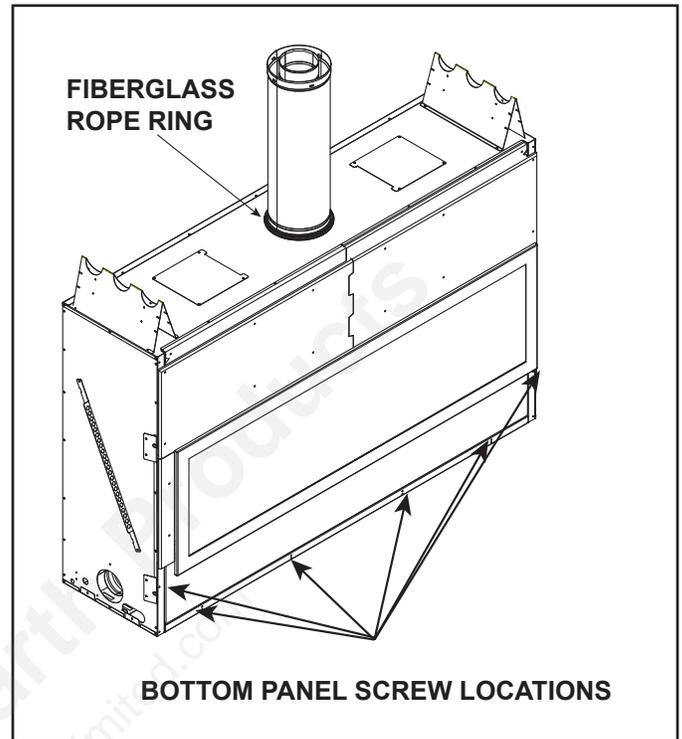

Figure 6.1 Location of Fiberglass Rope Ring
4. Remove bottom metal panel by removing six screws. Screw locations are shown in Figure 6.1. All screws are located behind the panel: four on the bottom and one on each side. Remove all six screws and gently lift the panel off the appliance avoiding contact with the non-combustible board if possible.